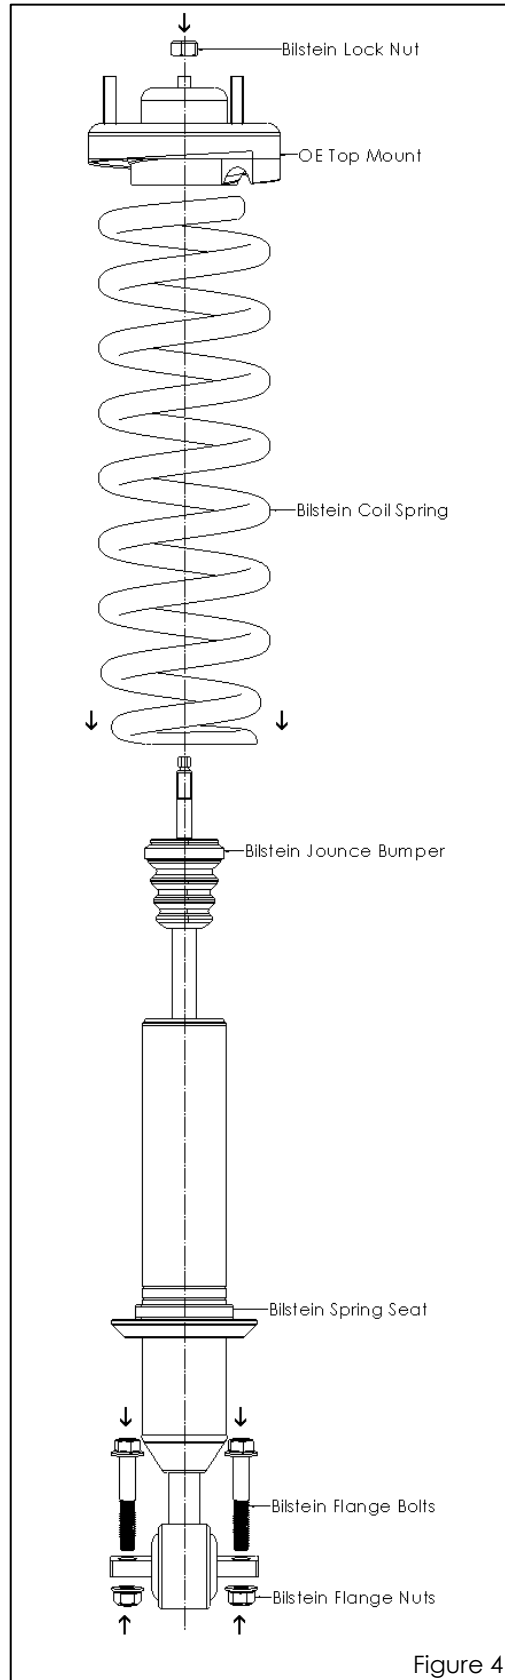

Figure 4
3. Install the supplied Jounce Bumper onto the rod, leaving it flush with the top of the chrome length as shown [see page 5 (Figure 4)].
- F. Install the supplied flange bolt as shown [see page 5 (figure 4)]